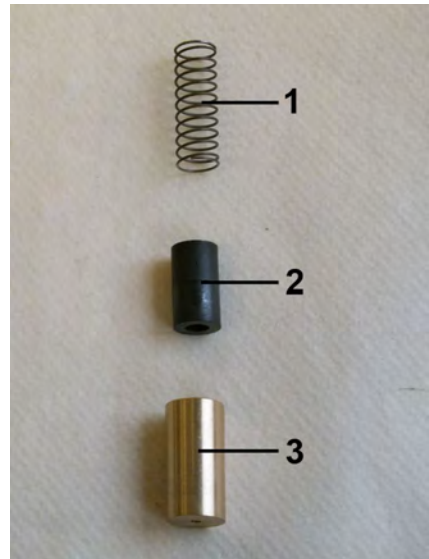

Fig. 26: Inner parts
4.  Insert spring (Fig. 26/1) with magnets (Fig. 26/2) into the float (Fig. 26/3), ensuring proper magnetic pole orientation (north pole toward device outlet).